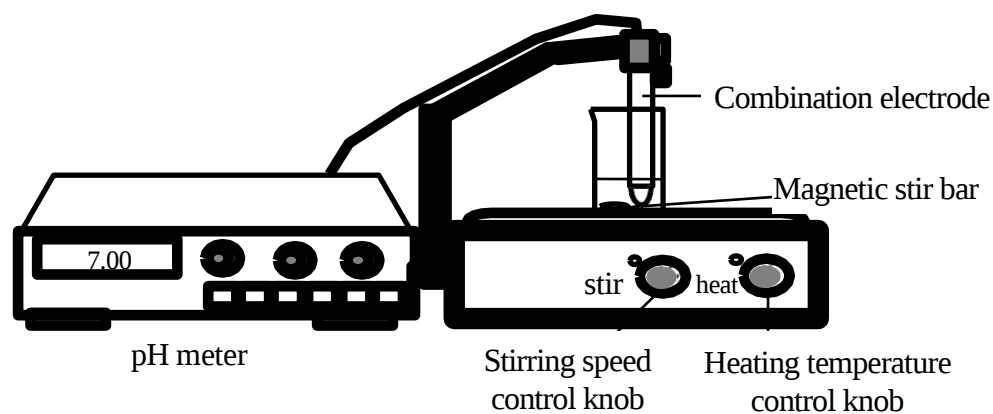

Figure 12-2. Schematic diagram of the pH meter setup for measuring the pH of a solution.
1.	(4) Adjust the “CALIB.” knob until the display reads “7.00.” (5) Rinse the electrode, then place it in the pH 4.00 buffer solution. Adjust the “SLOPE” knob until the display reads “4.00” to complete the calibration. (6) After rinsing the electrode and thermometer probe, immerse them in clean deionized water for storage. Note: The pH electrode is fragile and expensive; handle it with care.
5.	Set up the apparatus according to Figure 12-2 and measure the initial pH of the test solution. Note: Ensure that the salt bridge at the tip of the electrode is immersed in the solution. Adjust the position of the magnetic stir bar to prevent it from hitting the glass electrode, and stir the solution at low speed.